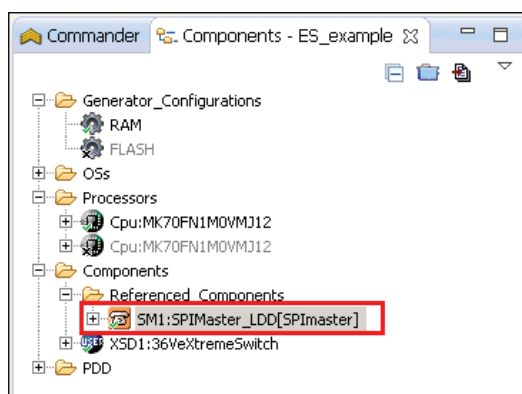

Figure 16. Setup 36VeXtremeSwitch
2. Setup the 36VeXtremeSwitch component configuration according to the TWR-MC36XSDEVB connection. Set the SPI master component linked to the 36VeXtremeSwitch component which is automatically loaded to the project (see Figure 16).